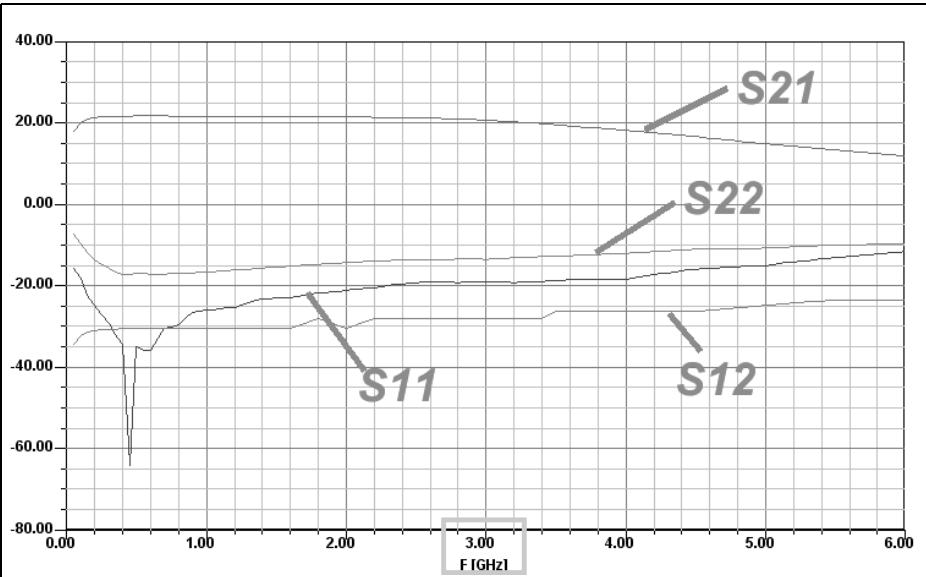

Fig 22: The result of the simulation.
- 5 After the last one is complete press “Done”. That should produce the screen shown in Fig 22. It can now be seen if the requirements up to 2.5GHz are fulfilled.
From Fig 22 in [5] the carrier suppression is largest if the output voltage of the BFO approximately 150mV, 3.5dBm ($f = 10\text{MHz}$). For use as a product detector the carrier suppression is not crucial